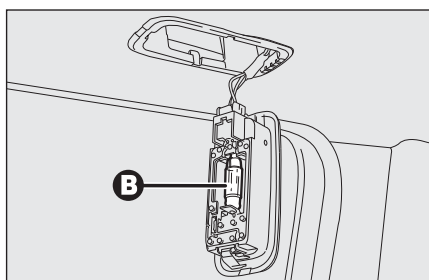

fig. 45
- ☐ replace the bulb **B**-fig. 45 releasing it from the side contacts making sure that the new bulb is correctly clamped between the contacts.